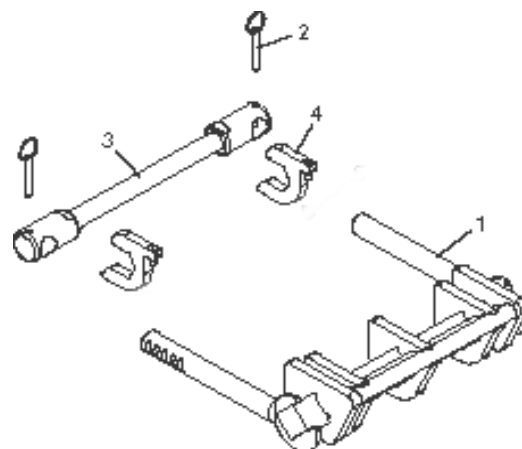

Figure 18
Typical Nose Bar Tip Up Tail Components (Figure 18)
*Adjust the acorn nuts (**Figure 18, item 5**) on the key stops (**Figure 18, item 4**) to raise or lower the tip up tail assembly.*